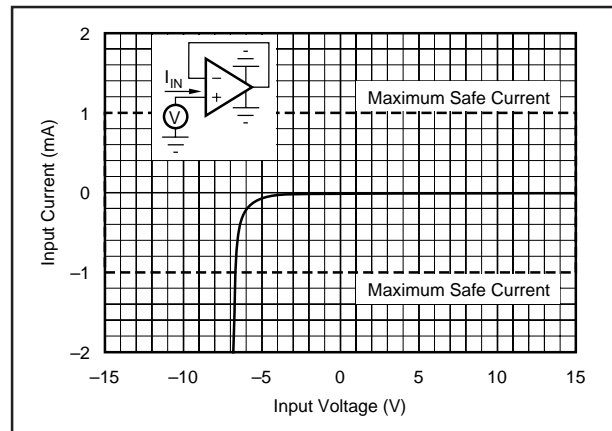

FIGURE 2. Input Current vs Input Voltage with $\pm V_{CC}$ Pins Grounded.
(2) Packages must be derated based on $\theta_{JA} = 90^\circ\text{C}/\text{W}$ for PDIP and $100^\circ\text{C}/\text{W}$ for SOIC. (3) For supply voltages less than $\pm 18\text{VDC}$, the absolute maximum input voltage is equal to $+18\text{V} > V_{IN} > -V_{CC} - 6\text{V}$. See Figure 2. (4) Short circuit may be to power supply common only. Rating applies to +25°C ambient. Observe dissipation limit and T_J .
Unlike BIFET amplifiers, the *Difet* OPA124 requires input current limiting resistors only if its input voltage is greater than 6V more negative than $-V_{CC}$. A $10\text{k}\Omega$ series resistor will limit input current to a safe level with up to $\pm 15\text{V}$ input levels, even if both supply voltages are lost (Figure 2).